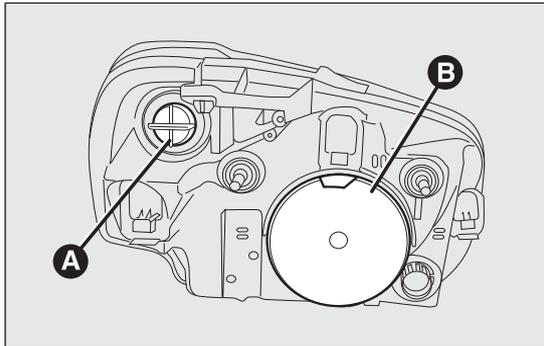
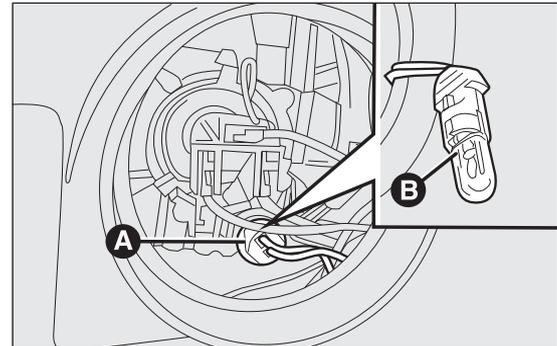

fig. 134
fig. 135
The front light clusters fig. 134 contain sidelight, dipped beam, main beam and direction indicator bulbs.
- remove the protective lid A fig. 134;
- turn the bulb holder A fig. 135 anticlockwise and remove it;
- refit the new bulb, insert the bulb holder A fig. 135 again and then refit the protective lid A fig. 134 correctly.
- refit the bulb holder clip and refit the protective lid A fig. 134 correctly.
- turn the protective lid B fig. 134 anticlockwise;